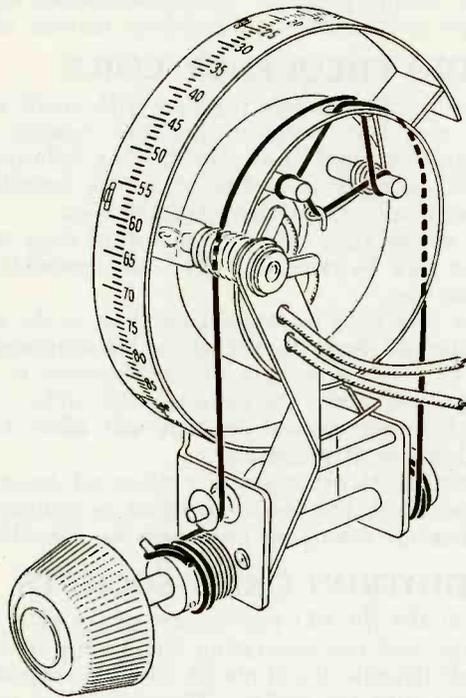

Figure 14—Gang tuning condenser drive mechanism and cable
- (c) By referring to Figure 14 the new cable may be placed in the position occupied by the old one.